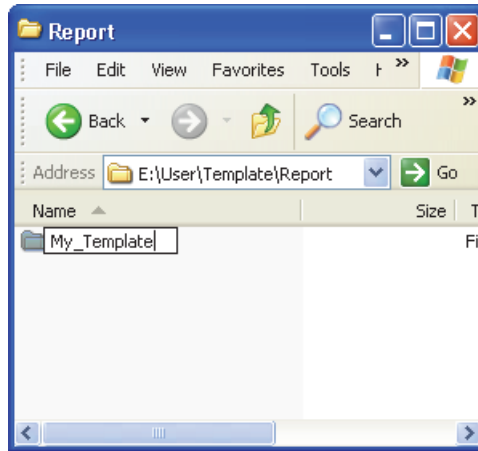

Figure 11-11 The path for the custom report files
4. Rename the \User\Template\Report\Complete\ folder that you have just copied using a name of your choice (renamed to My_Template in the example shown in Figure 11-11 on page 222).